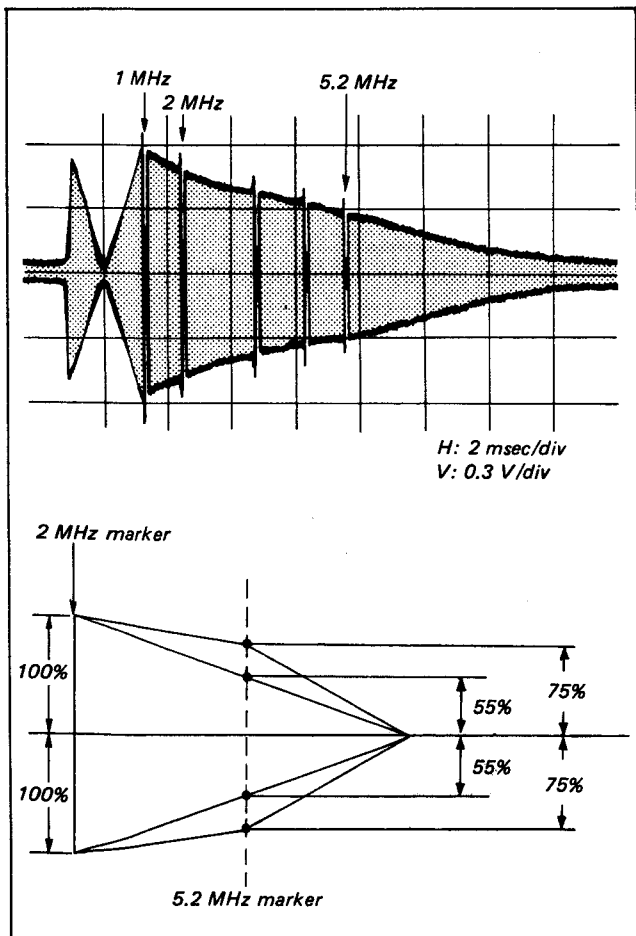

Fig. 5-12. Playback amplifier frequency characteristic adjustment
- Adjust RV204 to make the 2MHz amplitude of A and B channels equal (See Fig. 5-12).
- Adjust the 5.2MHz amplitude to 55-75% of the 2MHz amplitude with RV201 (RV205) (See Fig. 5-12).
- RY-2 board: Pin ② of CN2 to GND.
- Adjust RV202 and RV203 so that A'-ch level is equal to A-ch. (See Fig. 5-12.)